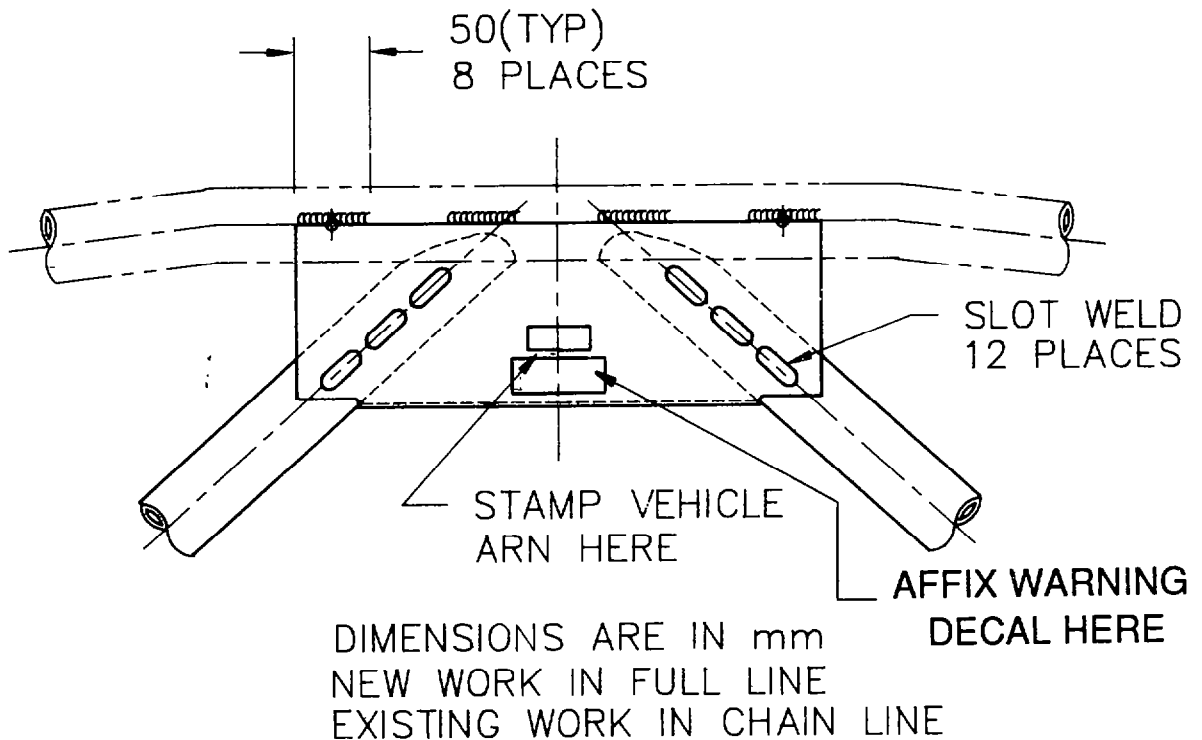

FIG 4 - POSITION AND WELD DIMENSIONS FOR SHEAR PLATE
- y. Mark and weld areas as shown in Fig 4 (Qty 8-50 mm welds and 12 slot welds).
- ai. Using 1/4 inch metal stamps, clearly mark the vehicle ARN on the rear of the shear plate as detailed in Fig 4.
aj. Fit warning decal (Item 1k from Table 1) as shown in Fig 4.